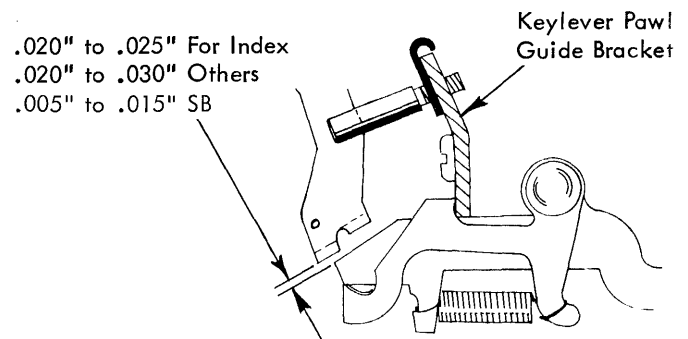

FIGURE 158. Keylever Pawl To Interposer Clearance Adjustment
- a. Adjust the height of the interposers by positioning the keylever pawl guide bracket up or down to obtain a clearance of .020" to .025" between the index keylever pawl and the index interposer at rest (Fig. 158). The keylever pawl guide bracket should be kept horizontal.
- b. The adjusting slot in the carrier return, backspace and tab keylevers should be formed to obtain .020" to .025" clearance between the keylever pawl and the interposer at rest (Fig. 158).
- c. Adjust spacebar lever eccentric with the high part forward to obtain a keylever pawl to interposer clearance of .005" to .015" (Fig. 158).